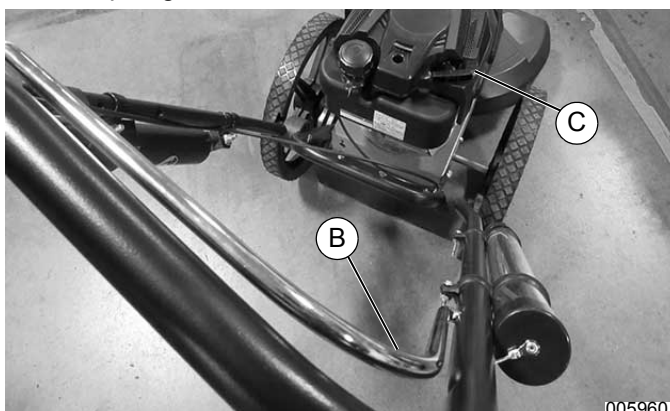

Figure 3-3. Throttle Control Lever and Key Switch
1. See Figure 3-3. For cold start push primer (A) three times before starting. This step is not required when starting a warm engine which has already run for a few minutes.
1. See Figure 3-3. To engage trimmer head, pull bail bar (B) back to the handlebar. Release handle to stop engine.